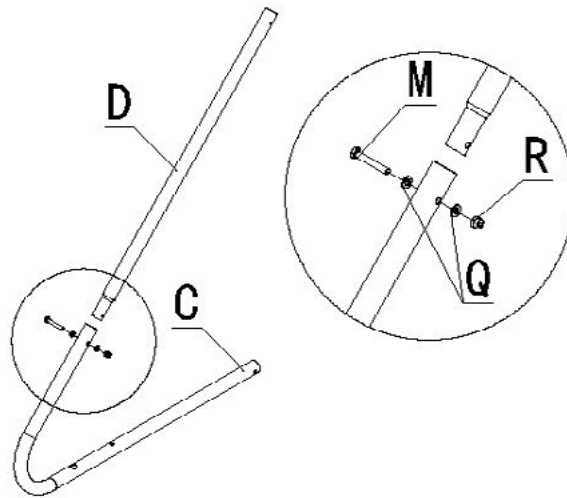

FIG. 2.
Step 2. Connect two groups of L support tube (C) and shrink tube connecting tube (D) through M6*40 bolt (M), 6*12 flat washer (Q) and M6 lock nut (R) See FIG. 2.